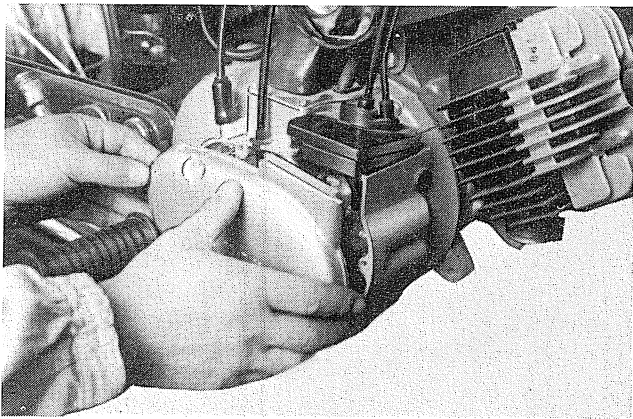

Fig. 3-1-12
9. Remove the carburetor cover. (Fig. 3-1-12)